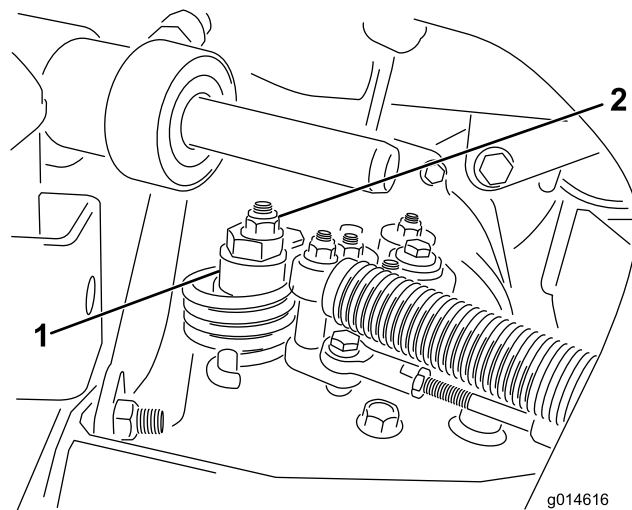

Figure 39
- A. Loosen the nut securing the eccentric to the top of the hydrostat (Figure 39).
- C. Rotate the eccentric until creep does not occur in either direction. When the wheel stops rotating, tighten the nut locking the eccentric and the adjustment (Figure 39). Verify the adjustment with the throttle in the SLOW and FAST position.